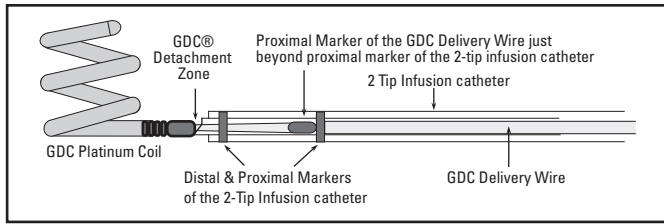

Figure 4. Optimal Alignment of Radiopaque Markers
- Continue to advance the GDC 360° Detachable Coil until the radiopaque proximal marker on the delivery wire is exactly distal to the proximal marker on the 2-tip infusion catheter (see Figure 4 below). Tighten O-ring on RHV to prevent movement of the delivery wire and proceed with detachment per instructions below.
- Confirm again under fluoroscopy that the proximal marker of the delivery wire is exactly distal to the proximal marker of the 2-tip infusion catheter (per Figure 4). (Position may have changed during attachment of the Detachable Coil Connecting Cables.)